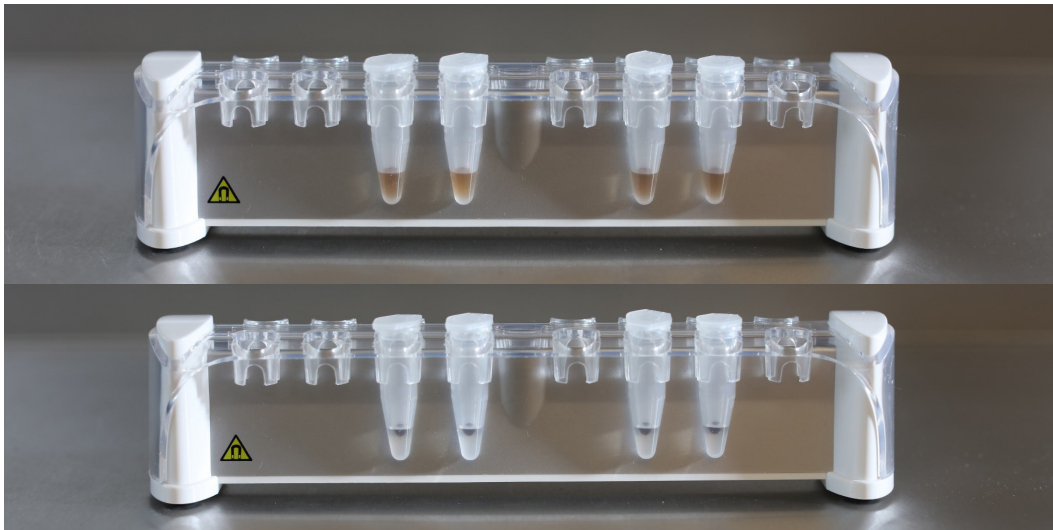

Figure 19. Tubes in DynaMag™-2 Magnetic stand before (upper) and after (lower) bead separation.
7. After the incubation, place the BP Tubes 1–4 on the DynaMag™-2 Magnetic stand and leave them for 2 minutes to separate the beads from the solution (Figure 19).